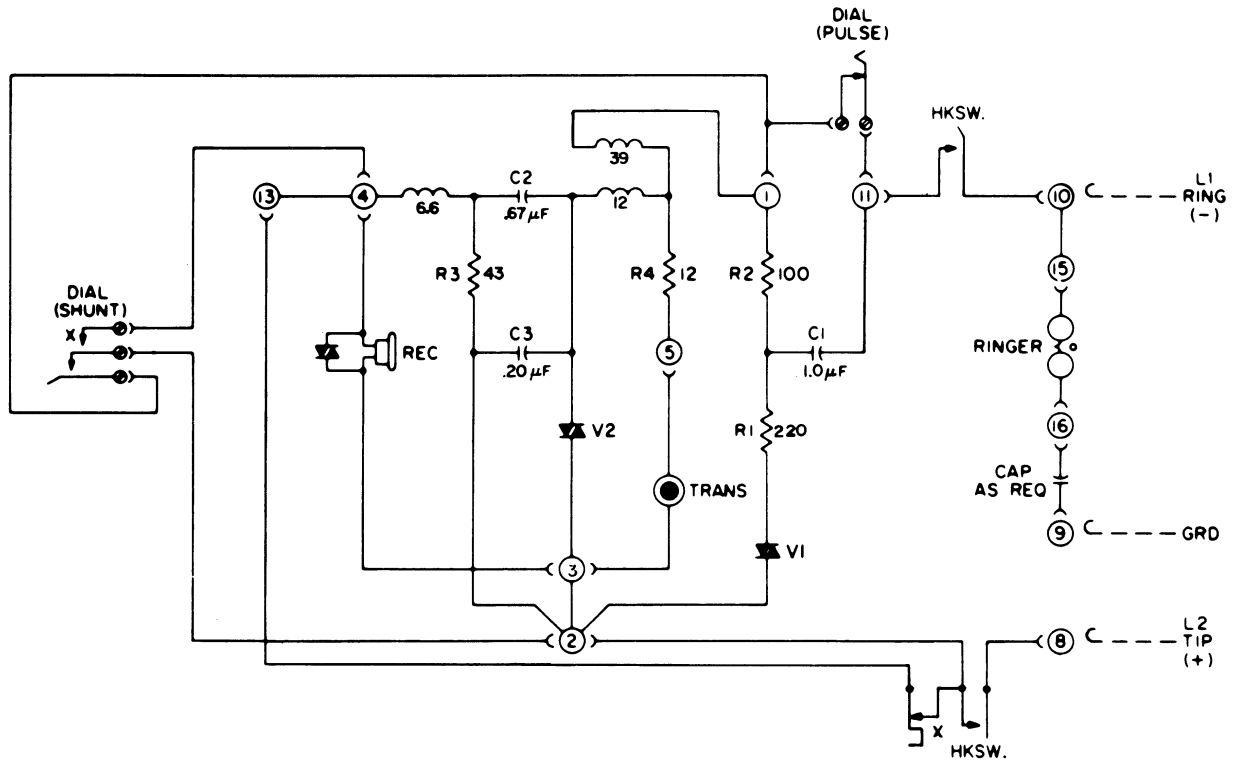

Figure 3. Schematic Diagram of Type 95 Set Equipped With WA-1063-A Network.
2.03 A channeled gusset extending behind the upper left hand corner of the component mounting plate supports the same hookswitch assembly as is used on the Type 183 telephone set. NB-series instruments used a six-spring assembly, as shown schematically in Figures 3 through 5, with the second and third springs strapped together. This is not readily adaptable to A-lead control for